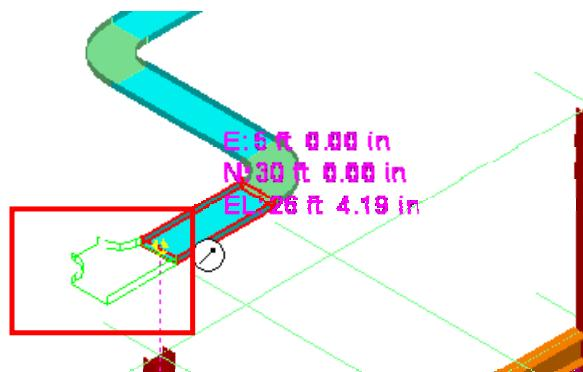

Figure 7: Horizontal Tee
16. After selecting the **Part Number** in the **Select Part** dialog box, click **OK**. The horizontal tee in the graphic view resembles the highlighted section of Figure 7.